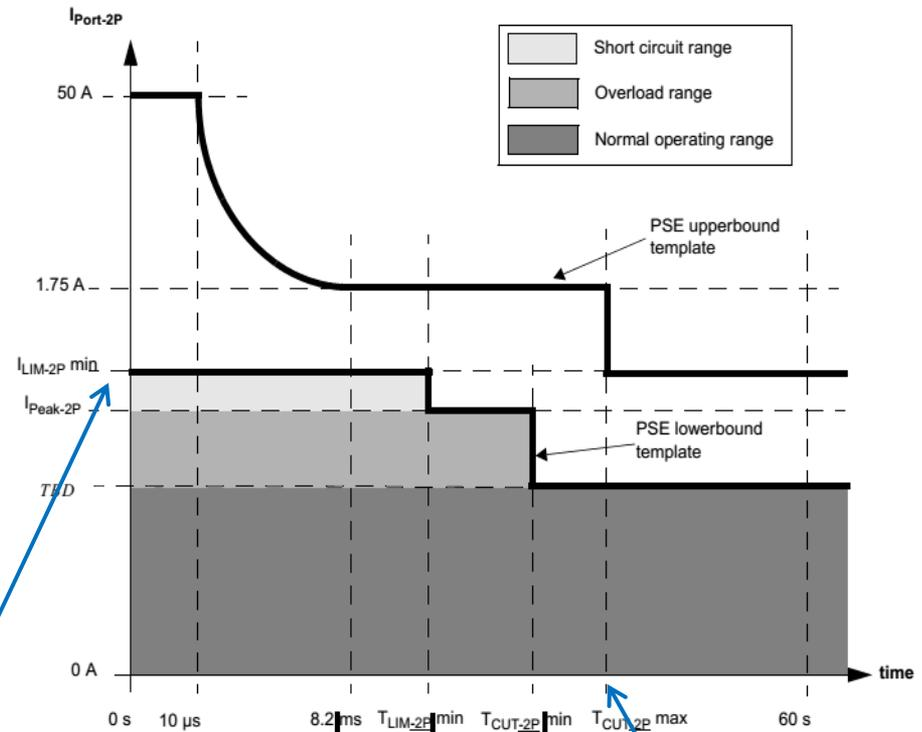

Figure 33–14—POWER_ON state, per pair set operating current templates
- “A PSE may remove power from the PI if the PI current meets or exceeds the “PSE lowerbound template” in Figure 33–14. Power shall be removed from a pair set of a PSE before the pair set current exceeds the “PSE upperbound template” in Figure 33–14”